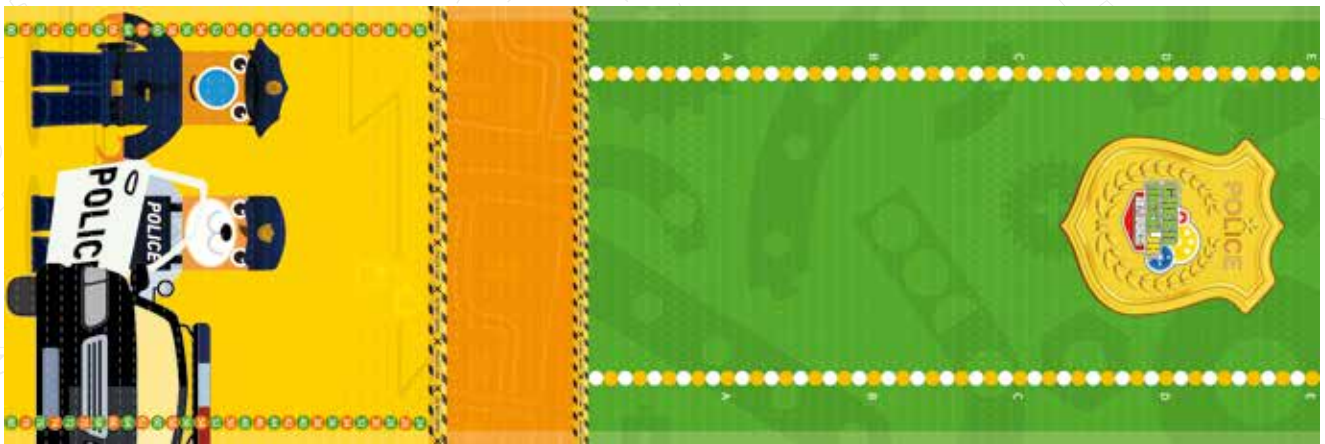

Figure 2. Contest Site
(1) This competition uses the site paper (Matt PP photo paper) as shown in Figure 2. The contest area uses a 180 x 60cm table, and the site paper is placed and pasted onto the table.
(1) This competition uses the site map (Matt PP photo paper) shown in Figure 2. The contest area requires a 180 x 60cm table, and the site map is fixed to the table.